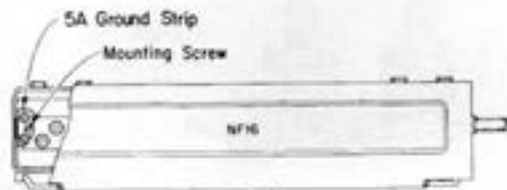

Fig. 74—5A Ground Strip Installed in NF16 Cable Terminal
7.06 The 5A ground strip (Fig. 73) consists of a brass plate with two binding posts. It is intended for use in 10- and 16-pair NC, NE, NF, and NH cable terminals. A hole is provided in the plate of the 5A ground strip for mounting it in a cable terminal using the screw which holds the terminal block in the terminal housing (Fig. 74). The 5A ground strip has a capacity of ten wires.